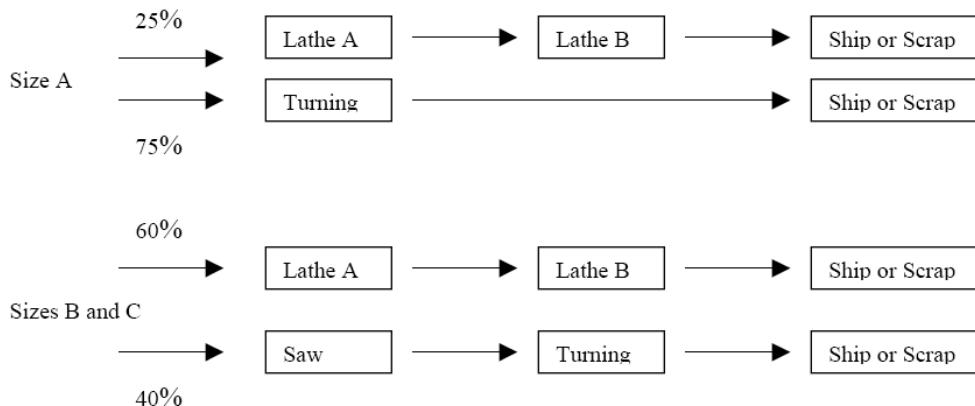

Figure Q4[b] (Redraw this figure changing turning to milling)
- Q4.** An automotive industry supplier manufactures three types of couplings. The couplings are produced in three different sizes, here referred to as sizes A, B, and C. The supplier has a total of four machines: one saw, two lathes and one milling machine. The process flow is shown in Figure Q4[a]. The information related to product and machine performance are shown in Table Q4(i) and Q4(ii). The company is running 16 hrs per day for 250 days per year. Based on the information given, justify whether with the available machines the company is able to cope with the customer annual demands.